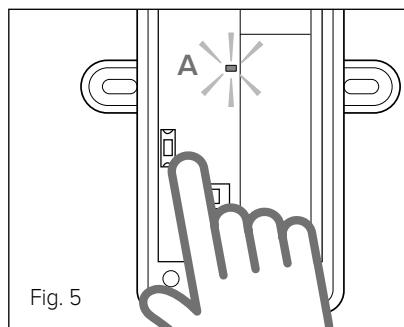

Fig. 5
- Press the button on the external sensor's board until red led A turns on for 2 seconds (Fig. 5).